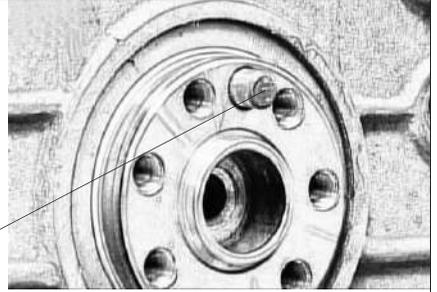

Fig 5-12 Flywheel Knock-pin
1.14 Use fixed pin to fix flywheel with crankshaft, crossly tighten bolts with torque 210 Nm (see Fig 5-12).